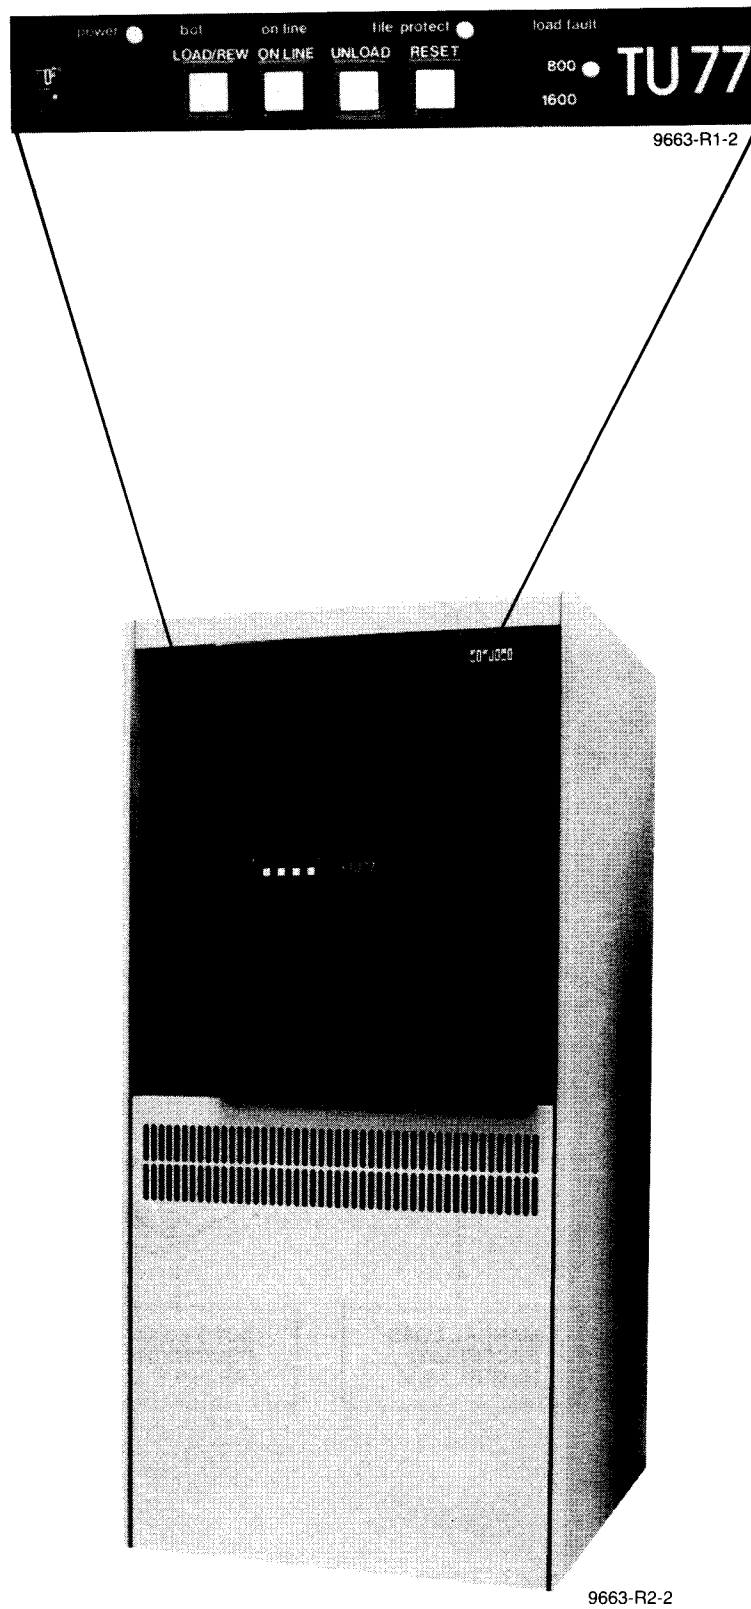

Figure 7-6: TU77 Magnetic Tape Drive
The autoloader procedure requires a full reel of tape be used. A full reel of tape is such that the tape on the reel comes to within 1.59 and 0.64mm (5/8 and 1/4 inch) of the other edge of the reel. Make sure the tape reel is a large 267mm (10-1/2 inch) reel. The supply reel (containing the tape to be read or written) is the top reel on the drive (Figures 7-6 and 7-7). The reel should be positioned in such a way that the tape will unwind if the reel is turned clockwise. You must insert a write-enable ring on the back of the supply reel to allow writing on the tape.
For manual loading, keep in mind that the supply reel (containing the tape to be read or written) is the top reel on the drive (Figures 7-6 and 7-7). The reel should be positioned in such a way that the tape will unwind if the reel is turned clockwise. You must insert a write-enable ring on the back of the supply reel to allow writing on the tape.
2. Manually place the tape leader between thread block number 1 and air bearing number 1 (Figure 7-6). Manually thread 3 to 5 inches of tape.